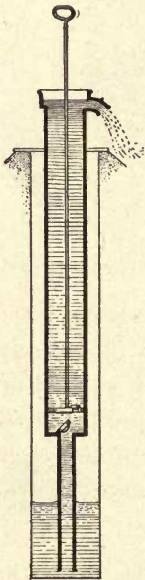

FIG. 77.— Common Suction Pump.
**Pumps.** — The common pump (Figure 77) removes the air from the pump stock and also lifts the water above the level of the spout. The weight of the water